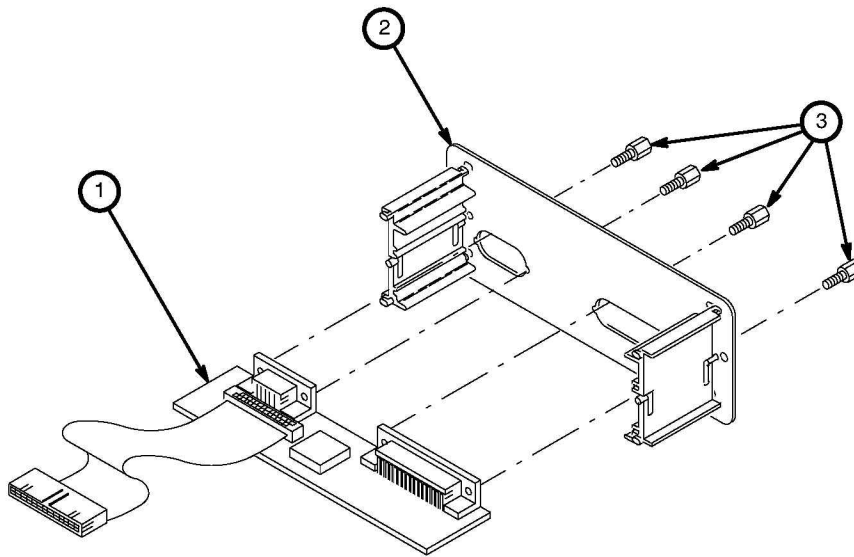

Figure 6-15: Remove Circuit Board From Assembly
- a. Using a $\frac{3}{16}$ inch nutdriver, remove the four lock connectors (number 3 in Figure 6-15) securing the circuit board to the rear plate.